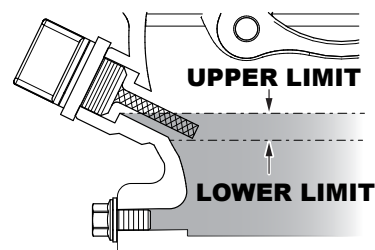

Figure 15. Engine Oil Dipstick (Oil Level)
4. If the oil level is low (Figure 15), fill to the edge of the oil filler hole with the recommended oil type (Table 5). Maximum oil capacity is 1.16 quarts (1.1 liters).